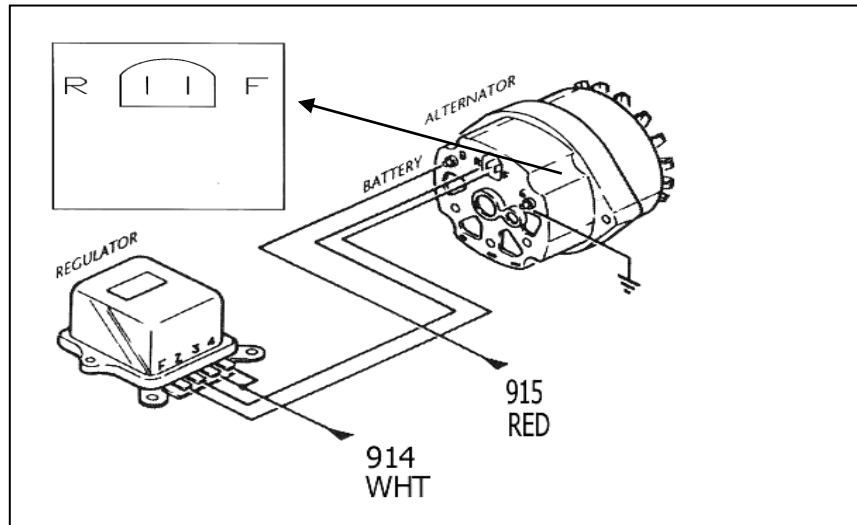

Figure 7-1 Early GM Alternator - External Regulator
7.1 Early GM Alternator - External Regulator. See Figure 7-1.